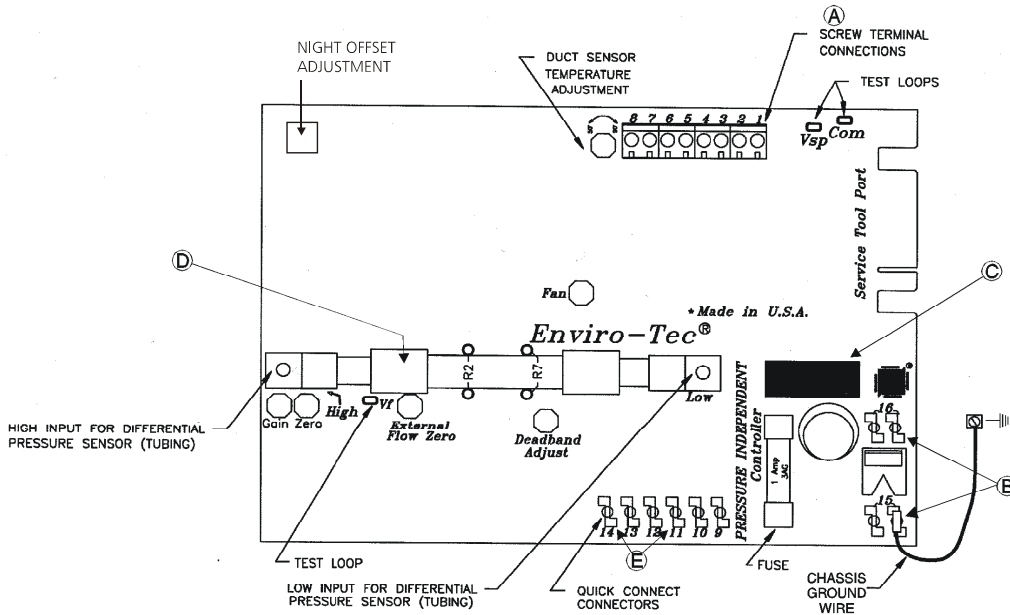
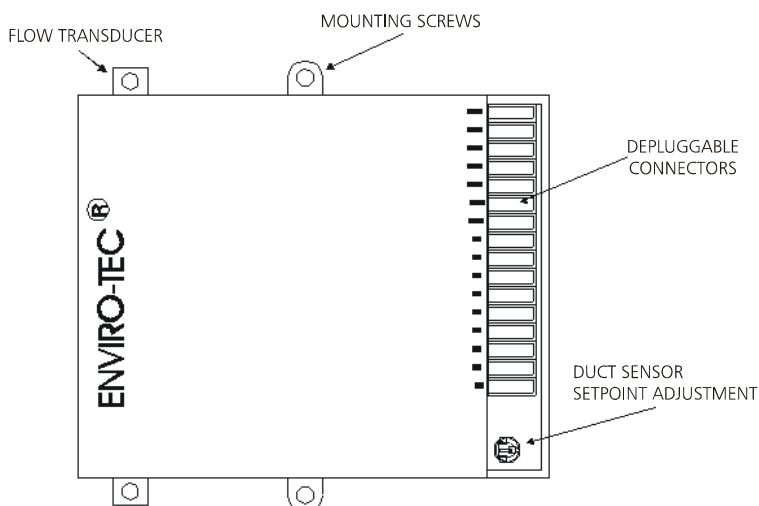

Figure 2a
Figure 2b
1.2 Controller (Figures 2a and 2b)
Three versions of controllers have been offered. The first generation (Figure 2b) was housed in a black plastic enclosure, used an AC actuator drive, and was standard from 1986 through most of 1990. The latest generation (Figure 2a) uses a blue circuit board, DC actuator drive, and was standard from 1990 through mid-2000. An interim version was offered for around six months in 1990. It was similar in appearance to the latest generation, but used a green circuit board and AC actuator drive.